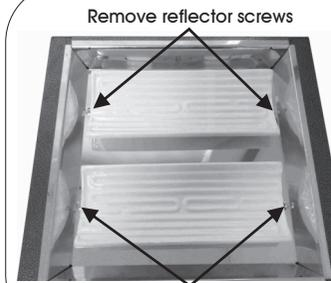

Fig. 7
2. Remove the four reflector screws (Fig.7).